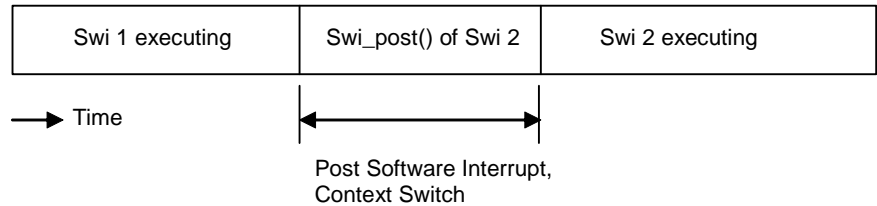

Figure C-5 Post Software Interrupt with Context Switch
- ❑ **Post software interrupt, context switch.** This is a measurement of the elapsed time between a call to `Swi_post()` (which causes preemption of the current Swi) and the execution of the first instruction in the higher-priority software interrupt, as shown in Figure C-5. The context switch to Swi2 is performed within the Swi executive, and this time is included within the measurement.